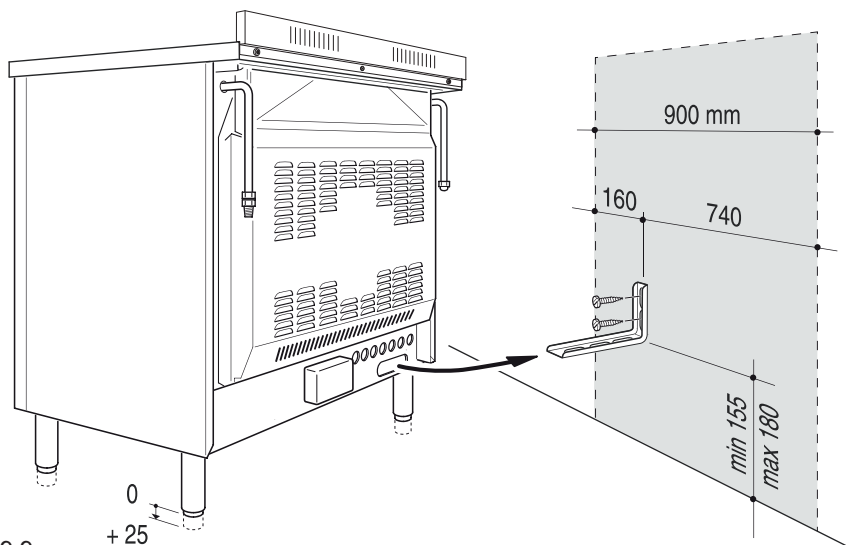

Fig. 9.9
Please follow the indications given in fig. 9.9.
4. Move the cooker to the wall and adjust the height of the anti-tilt bracket so that it can engage in the slot on the cooker's back, as shown in fig. 9.9.